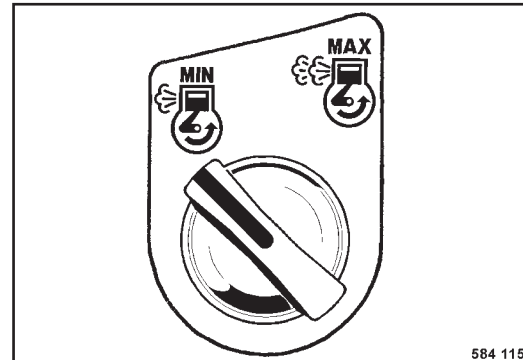

Fig. 36
- Turn rotary switch (Fig. 36) to position "Min" (idle speed).